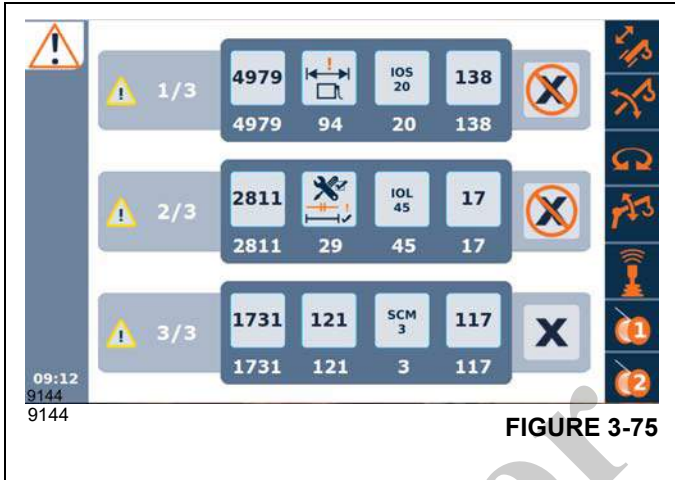
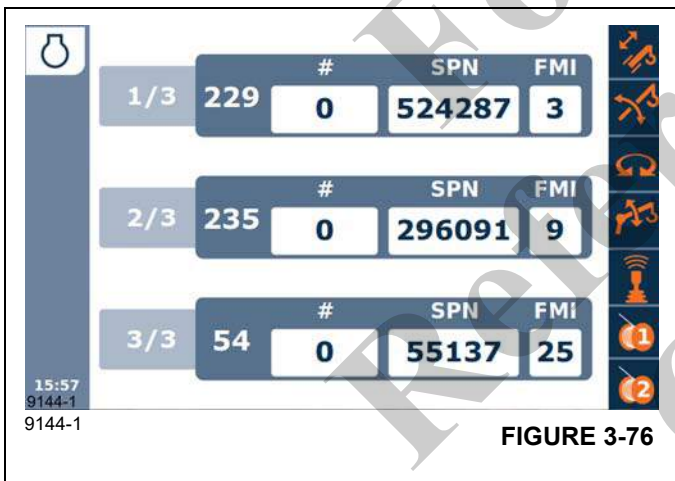

FIGURE 3-75
FIGURE 3-76
1. Open the fault list screen (Figure 3-75) or the engine faults screen (Figure 3-76) and highlight the fault you're interested in getting more information about.